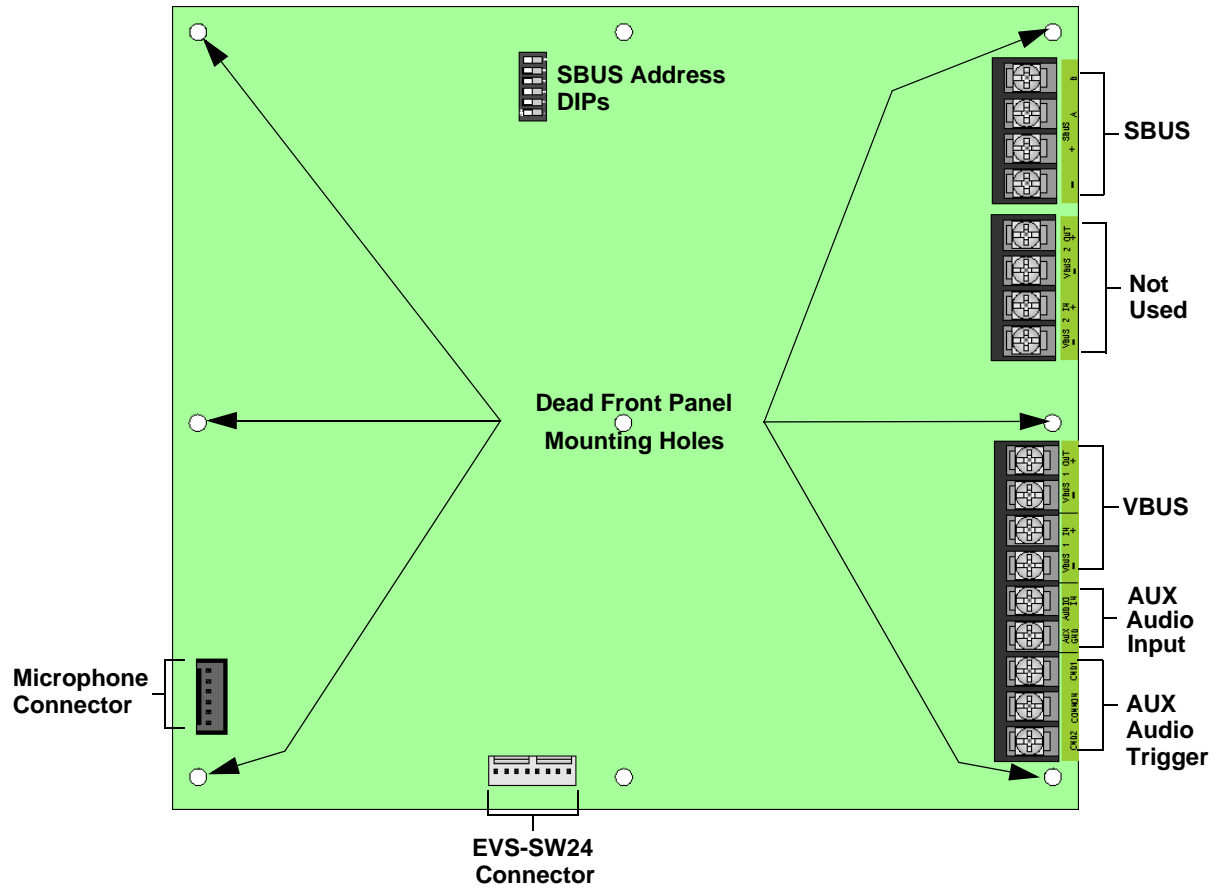

Figure 4.49 Back View of EVS-RVM
The following steps explain how to connect the batteries (refer to Figure 4.49):
- Disconnect any devices connected to the VBUS. See Figure 4.49.